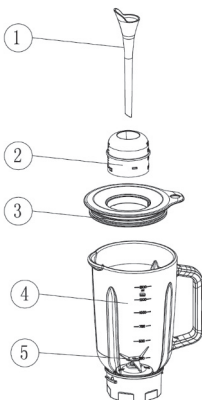

Fig. 1
1. Align the small projecting rib on the measuring cup and the caved position on the Jar lid, insert the Small measuring cup (2) into the Jar lid (3). (FIG 1).